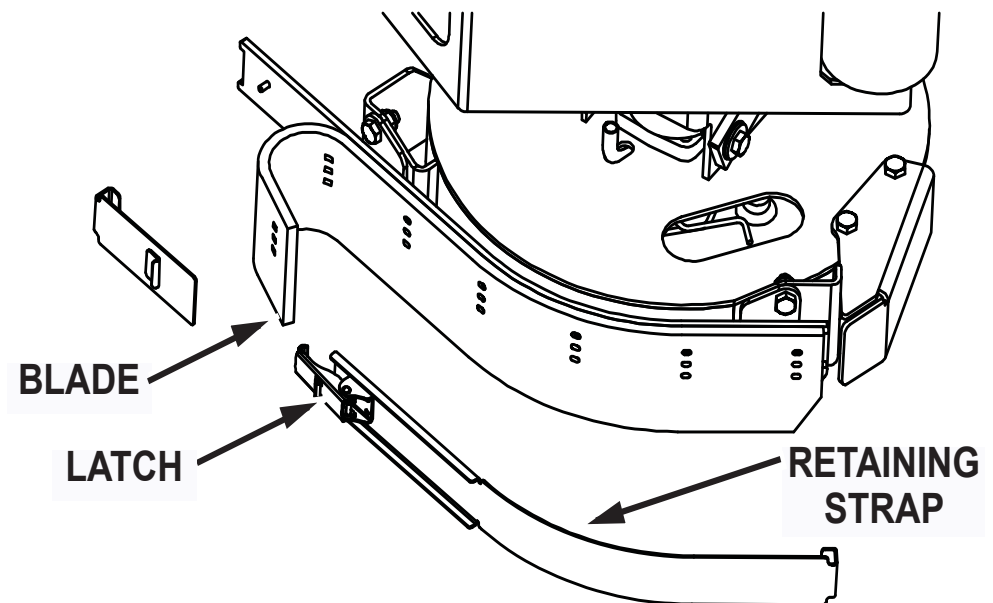

Fig. 3: Retaining Strap & Blade
2. Open the latch on the squeegee retaining strap and remove the retaining strap. (See Fig. 3)